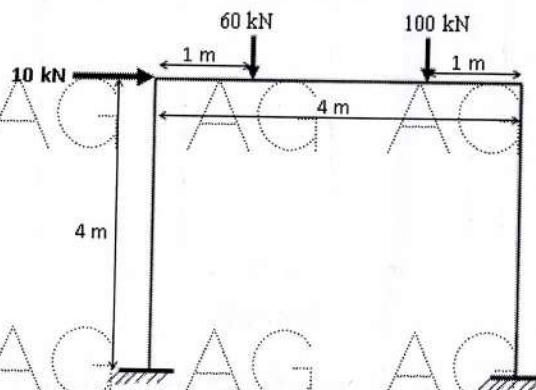

Figure 5
7. Using the stiffness method, analyze the frame supported and loaded as shown in figure 5. [15]